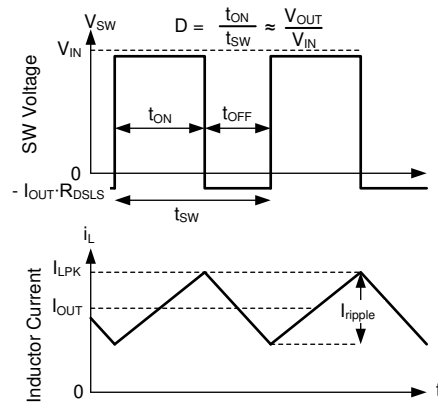

Figure 7-10. SW Voltage and Inductor Current Waveforms in Continuous Conduction Mode (CCM)
The following operating description of the LM656x5-Q1 refers to Section 7.2 and the waveforms in Figure 7-10. Both supply a regulated output voltage by turning on the internal high-side (HS) and low-side (LS) NMOS switches with varying duty cycle (D). During the HS switch on-time, the SW terminal voltage, V_{SW} , swings up to approximately V_{IN} , and the inductor current, i_L , increases with a linear slope. The HS switch is turned off by the control logic. During the HS switch off-time, t_{OFF} , the LS switch is turned on. Inductor current discharges through the LS switch, forcing V_{SW} to swing below ground by the voltage drop across the LS switch. The regulator loop adjusts the duty cycle to maintain a constant output voltage. D is defined by the on-time of the HS switch over the switching period: $D = T_{ON} / (T_{ON} + T_{OFF})$.